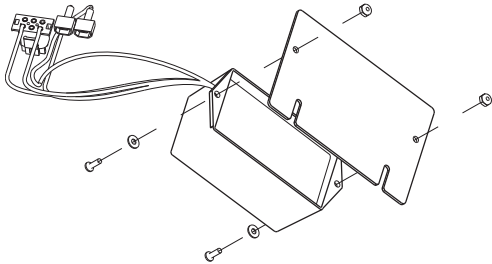

Figure 1: Remove the adapter plate
6. Remove and discard the metal adapter plate on the new assembly by removing the included hardware. *Figure 1.*